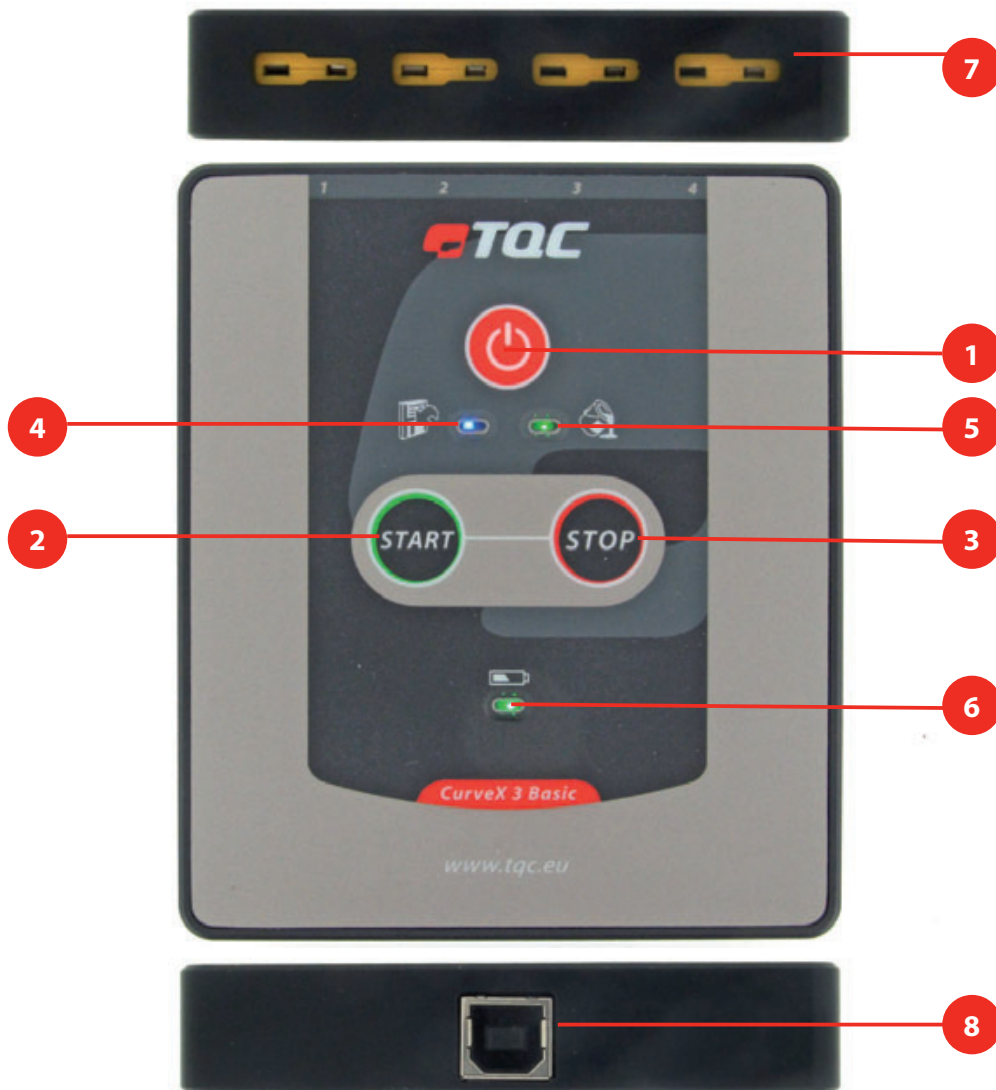

Figure 1
The information in the following steps should be sufficient to allow you to operate the CurveX 3 Basic without further use of this manual. For more detailed information we refer you to the remainder of the manual. See Figure 1 for more information about the interface positions.
- Step 1.** Power on the data logger by pressing the POWER button (see figure 1, position 1) and start the Ideal Finish Analysis software.
- Step 2.** Connect the USB connector to the CurveX 3 Basic (see figure 1, position 8).